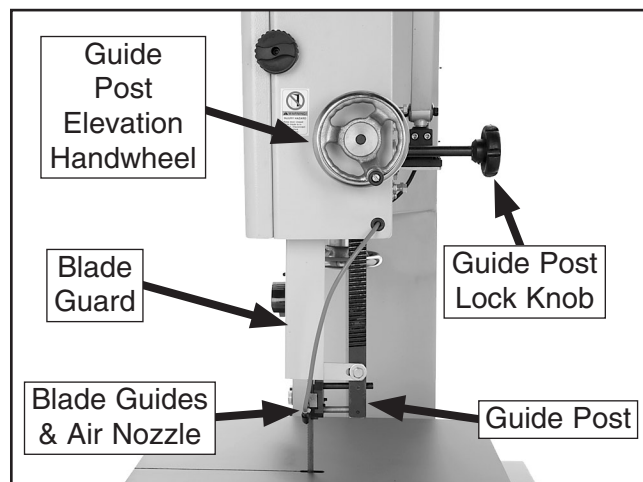

Figure 19. Guide post assembly.
2. Loosen the guide post lock knob (see **Figure 19**).